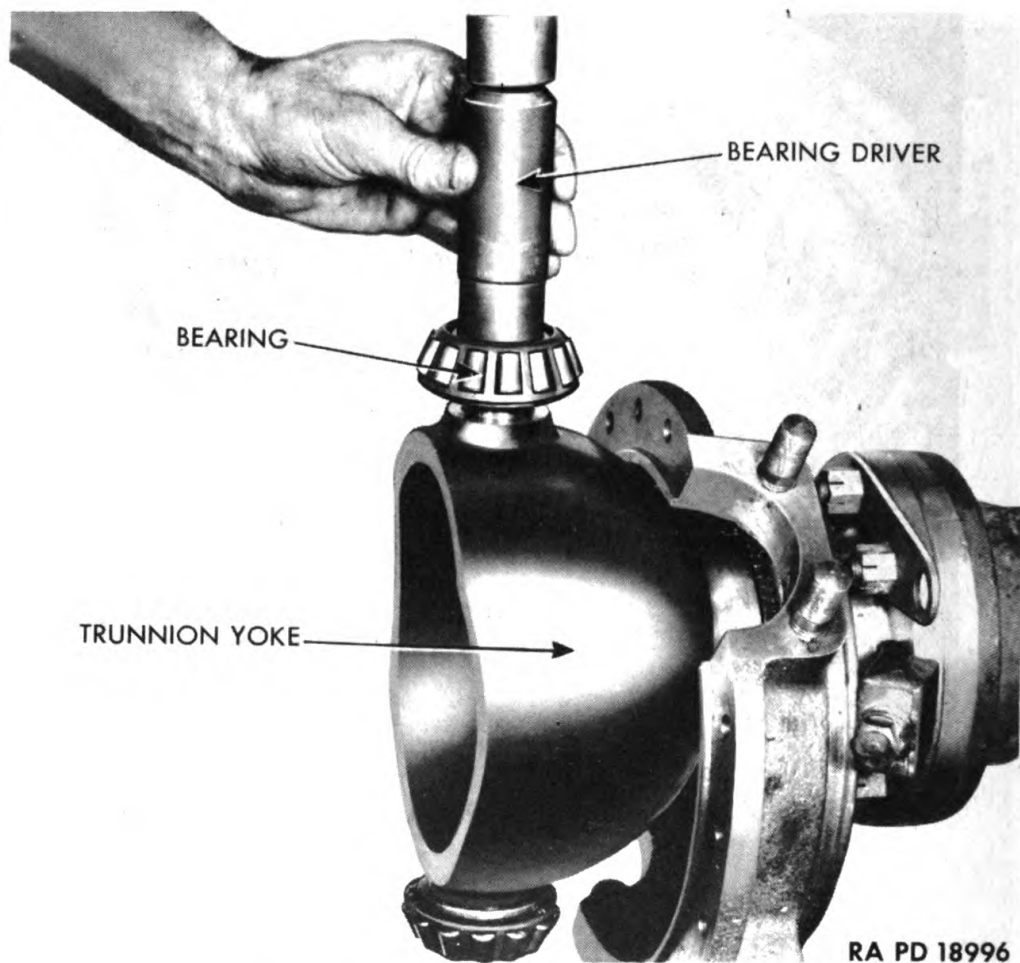

Figure 74 — Installing Trunnion Yoke Bearing
i. Install Trunnion Yoke Bearings on Yoke Pins. Drive upper and lower trunnion yoke bearings into place on trunnion yoke pins (fig. 74).